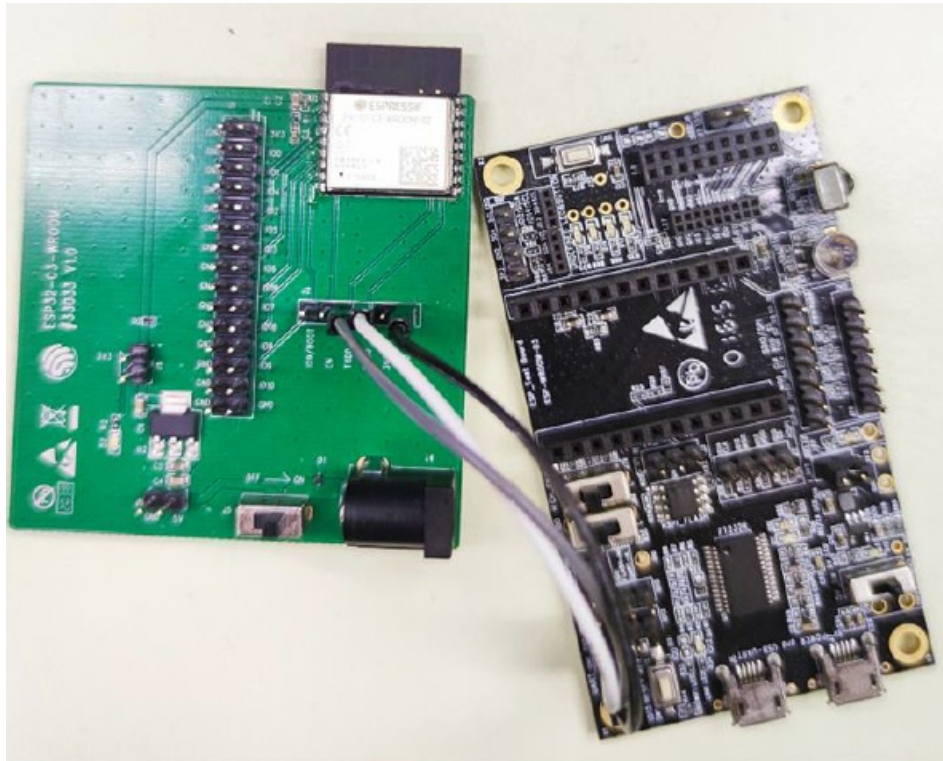

Figure 2: Hardware Connection
1. Solder the ESP32-C3-WROOM-02U module to the RF testing board as shown in Figure 2.